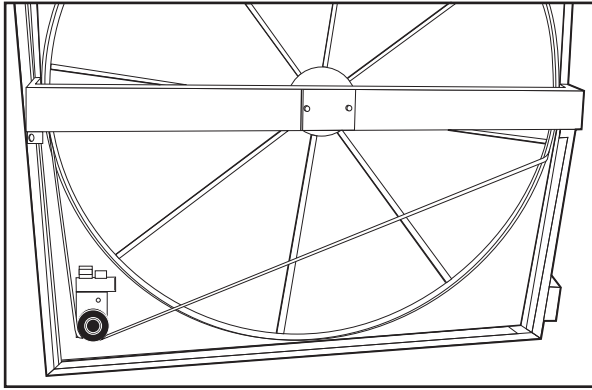

Fig. 201 — Belt Removal
9. Lift and remove the belt from the wheel rim between a point opposite the pulley and belt retaining clip and stretch over pulley (see Fig. 201).